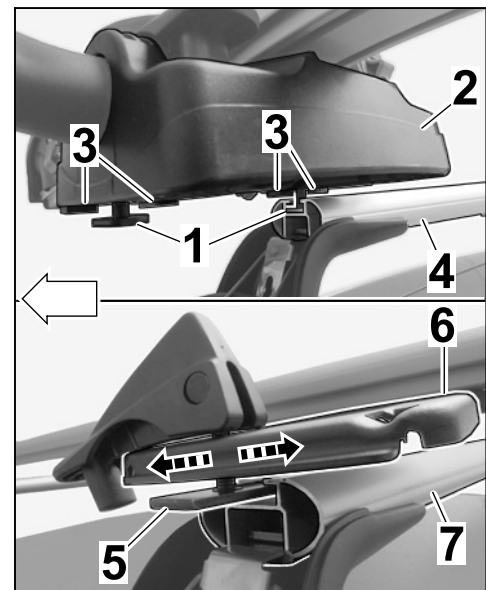

Figure 8
- 4.4 Guide sliding block (T-bolt, M6 x 35) with bicycle rack into the groove in the carrier (⇒ *Figure 8*).